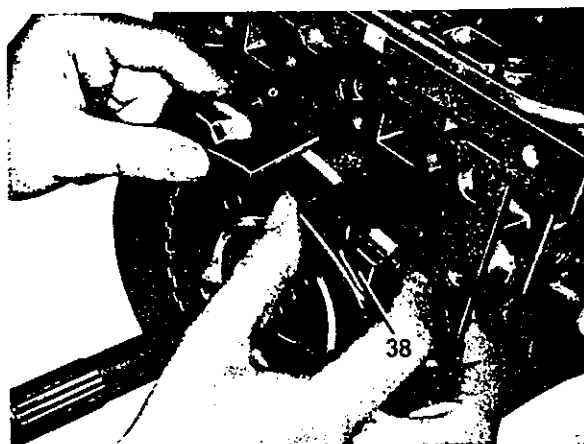

Fig. 17
22 Pull out brake band B 3 (38) toward the front Fig. 17